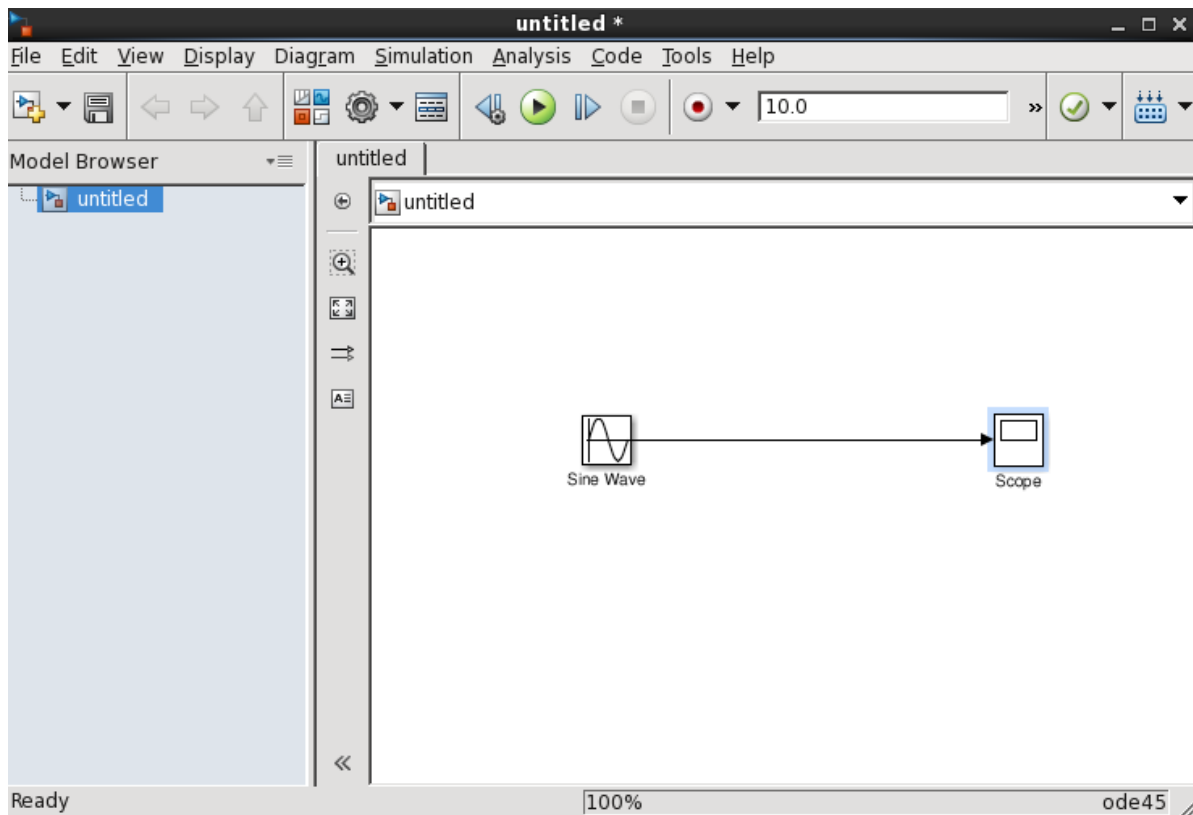

Figure 6: Sine source connected to Scope sink with a wire.
5. To connect the Sine wave source block to the Scope sink block, move the mouse cursor to the output port of the Sine block (the cursor will turn to a cross hair once it is over the port), left click the mouse and drag it to the input port of the Scope block and left click. A wire will be drawn connecting the two blocks as shown in Figure 6.